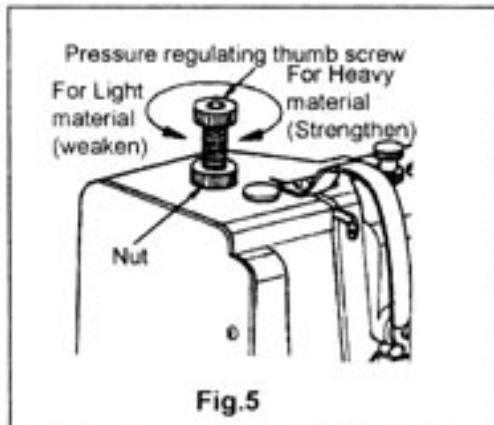

Fig.5
7. Adjust the Pressure of Presser Foot (Fig.5):
(Fig.5):
As shown in Fig.5. Turn the pressure regulating thumb screw to increase or decrease the pressure of presser foot.